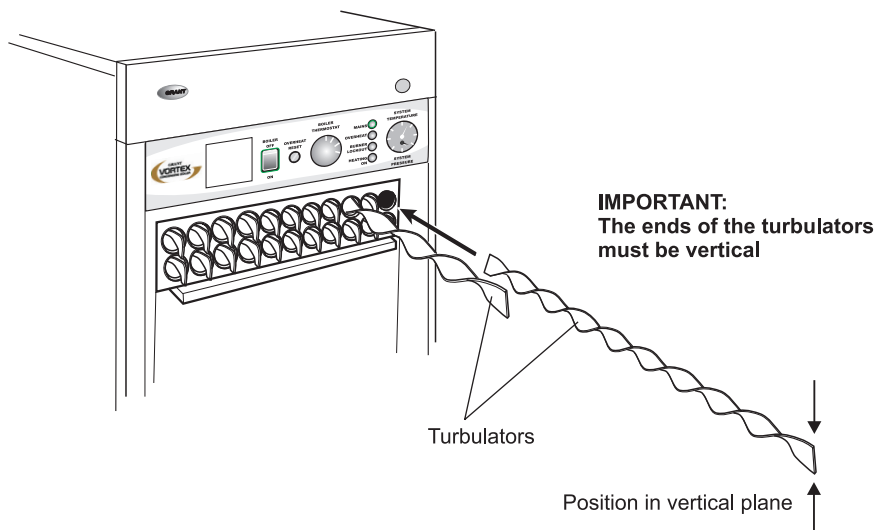

Fig. 26
IMPORTANT: Check that the turbulators are in position and that the ends are vertical (see Fig. 26).
- 7 Pull out the spiral turbulators from the heat exchanger tubes. See Fig. 26.
Electrode tips approximately 4 mm apart and 3 to 3.5 mm in front of the nozzle, see Fig 26.